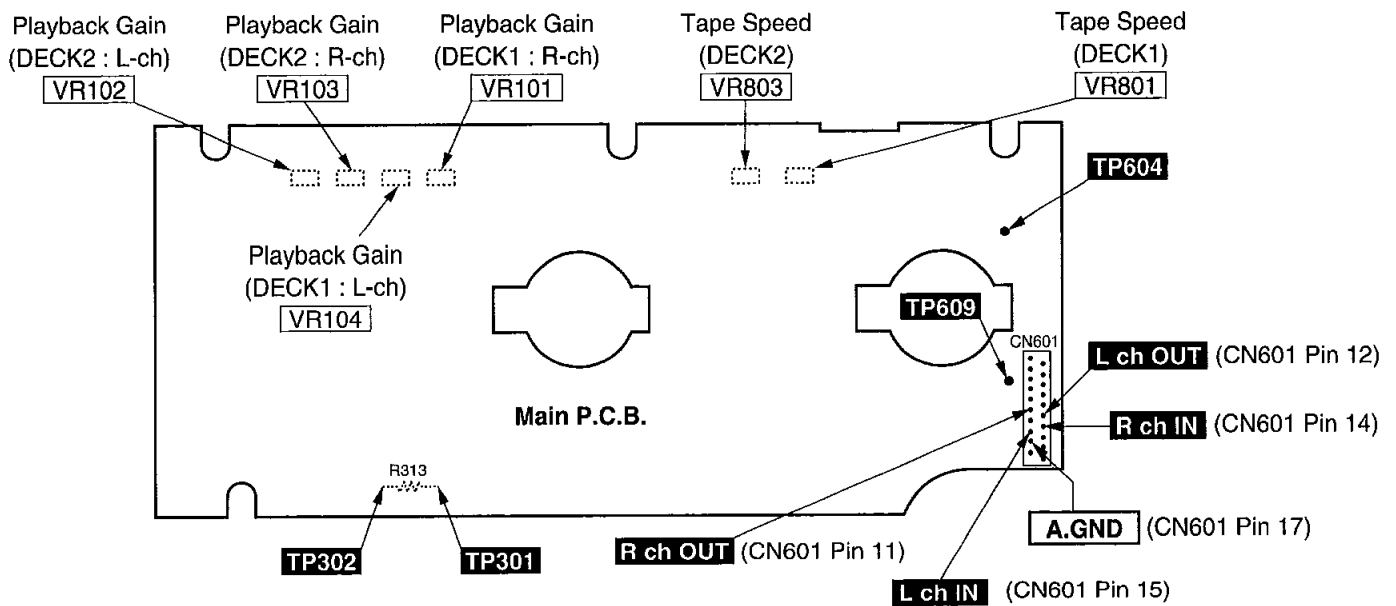

Fig. 1
2. Adjust Deck 1 = **VR801** and Deck 2 = **VR803** for the output value shown below. (Refer to Fig. 1)
3. Adjust Deck 2 : **VR102** (L-ch) [**VR103** (R-ch)] and Deck 1 : **VR104** (L-ch) [**VR101** (R-ch)] so that the output is within the standard value. (Refer to Fig. 1.)